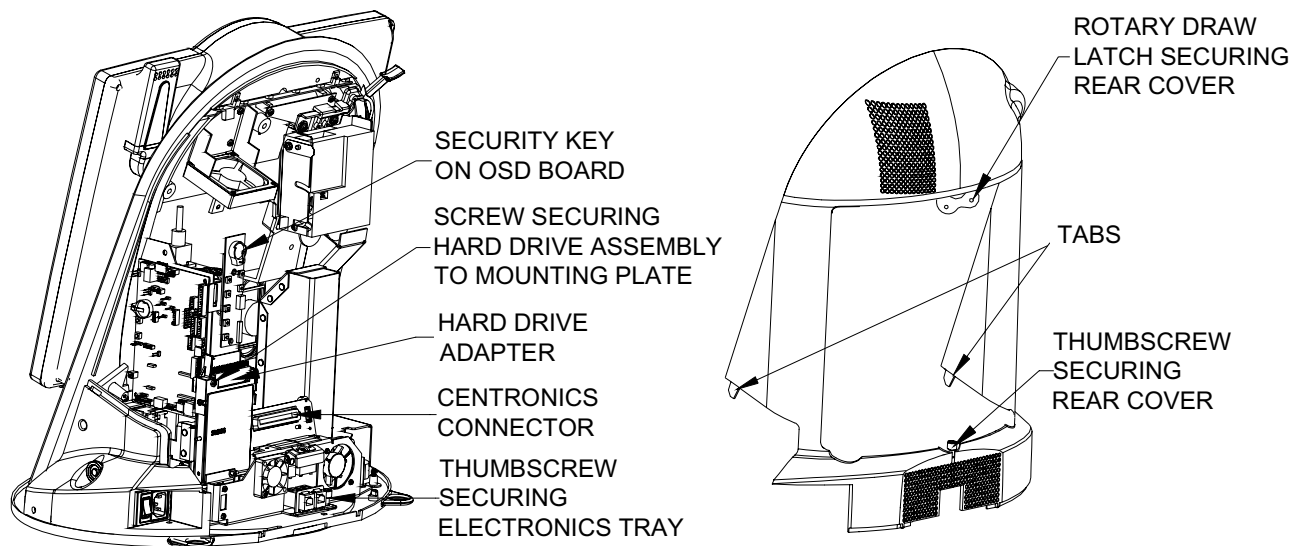

FIGURE 10 - REAR VIEW OF AURORA GAME (WITH COVER AND REAR DOOR REMOVED)
6. Reach under the center cover to locate the rotary draw latch (see Figure 10). Turn the latch counter-clockwise to disengage.
7. Unscrew the thumbscrew located in the center of the bottom of the cover (see Figure 10). Slowly lift the cover and disconnect the ground wire.
8. Remove the electronics tray by unscrewing the thumbscrew located in the middle of the rear of the tray (see Figure 10) and sliding the tray out. You may have to disconnect some harnesses in order to pull the tray out. Keep track of any disconnections you make.